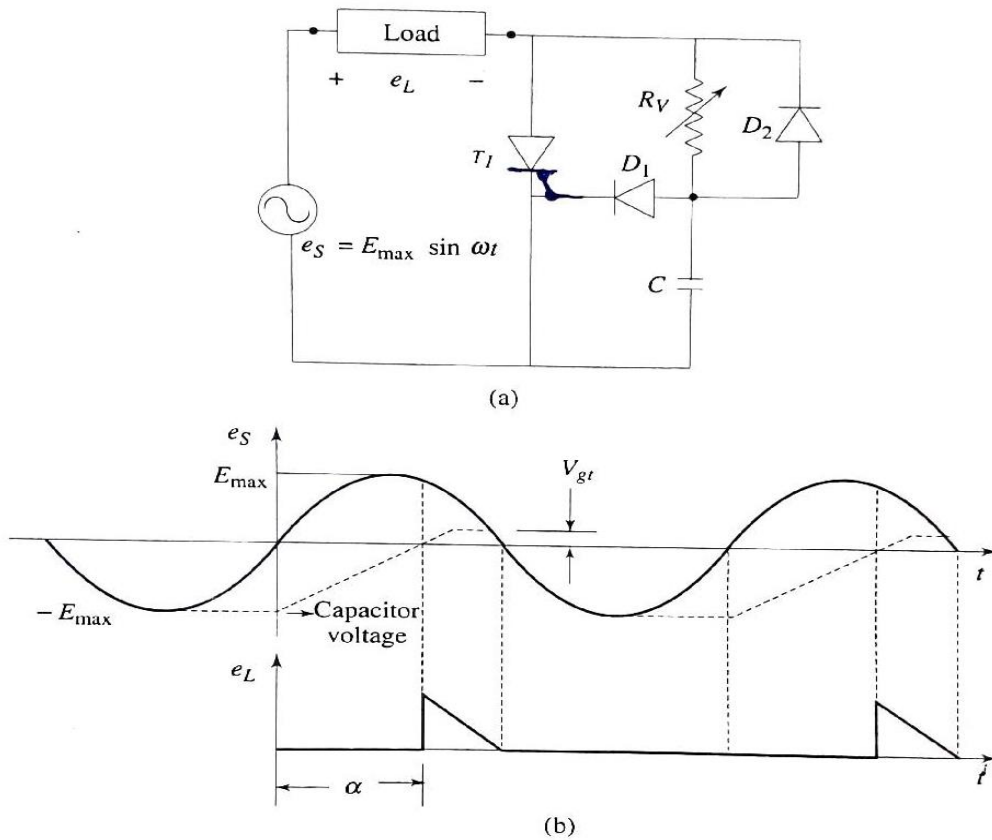

Fig. 2.12 (a) RC firing circuit, (b) voltage-waveform
- Figure 2.12 shows the RC-half wave trigger circuit.
- After this, the capacitor holds to a small positive voltage, as shown in Fig.2.12.